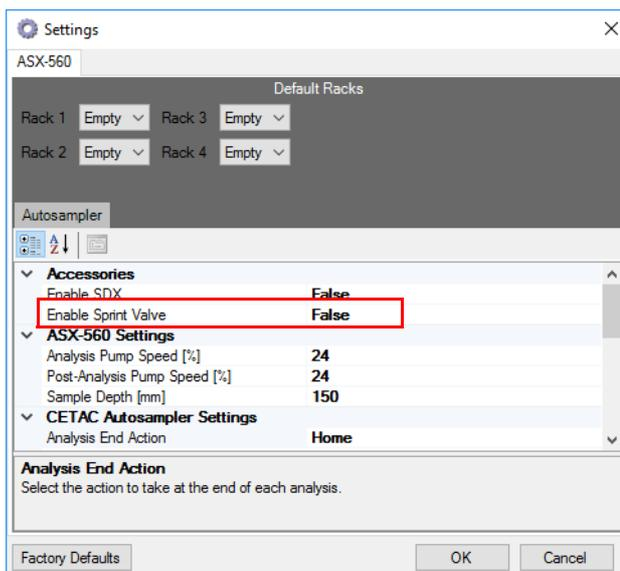

Figure 14-44. Settings dialog for the ASX-560 autosampler
2. Click **Edit settings** to open the **Settings** dialog, see Figure 14-44.